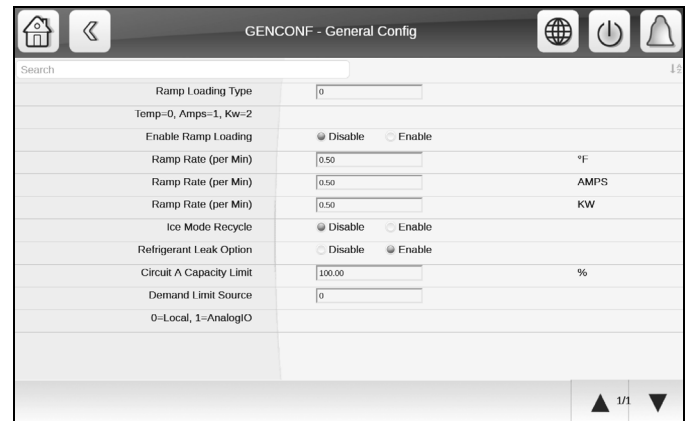

Fig. 46 — General Configuration Menu
7. The compressor may operate at full capacity for a short time after the pulldown ramping has ended, even though the building load is small. The active electrical demand setting can be overridden to limit the compressor kW, or the pulldown rate can be decreased to avoid a high demand charge for the short period of high demand operation. Pulldown rate can be based on load rate or temperature rate. Pulldown ramp rate is configured in General Configuration Menu (Fig. 46).